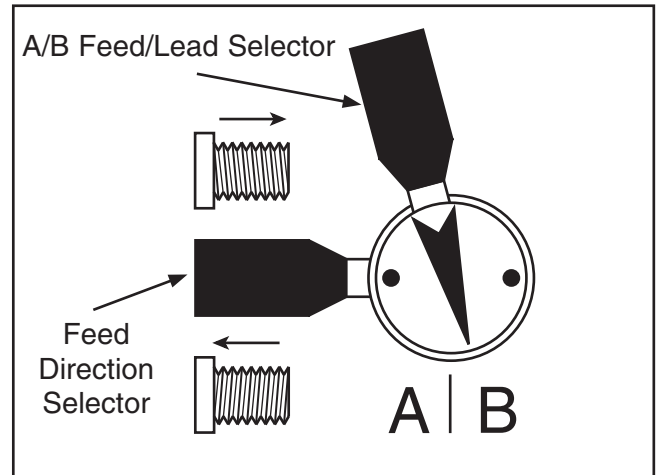

Figure 51. Feed direction and A/B feed/lead selector.
1. Move the feed direction lever to the desired setting. The arrow above the screw thread icon indicates the direction of longitudinal feed. Cross feed directions are as follows: when the arrow points to the left, the cross feed is away from the spindle axis; when arrow points to the right, the cross feed is towards the spindle axis (see **Figure 51**).
6. Move the feed direction selector to the desired direction for movement (see **Figure 51**).